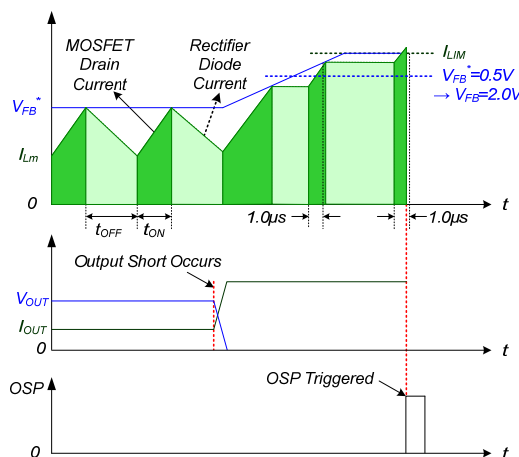

Figure 22. Output-Short Protection
**4.3. Output-Short Protection (OSP):** If the output is shorted, steep current with extremely high di/dt can flow through the SenseFET during the minimum turn-on time. Such a steep current brings high-voltage stress on the drain of the SenseFET when turned off. To protect the device from this abnormal condition, OSP is included. It is comprised of detecting  $V_{FB}$  and SenseFET turn-on time. When the  $V_{FB}$  is higher than 2.0V and the SenseFET turn-on time is lower than 1.0 $\mu$ s, the FSL176MRT recognizes this condition as an abnormal error and shuts down PWM switching until  $V_{CC}$  reaches  $V_{START}$  again. An abnormal condition output short is shown in Figure 22.